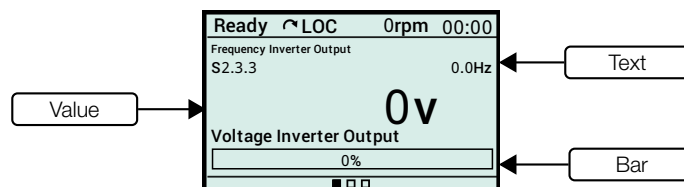

Figure 4.11: Inline View
- Line:** In one line, it is possible to display a reading variable in the format **text, value or bar**. Figure 4.11 shows an example with the three formats.